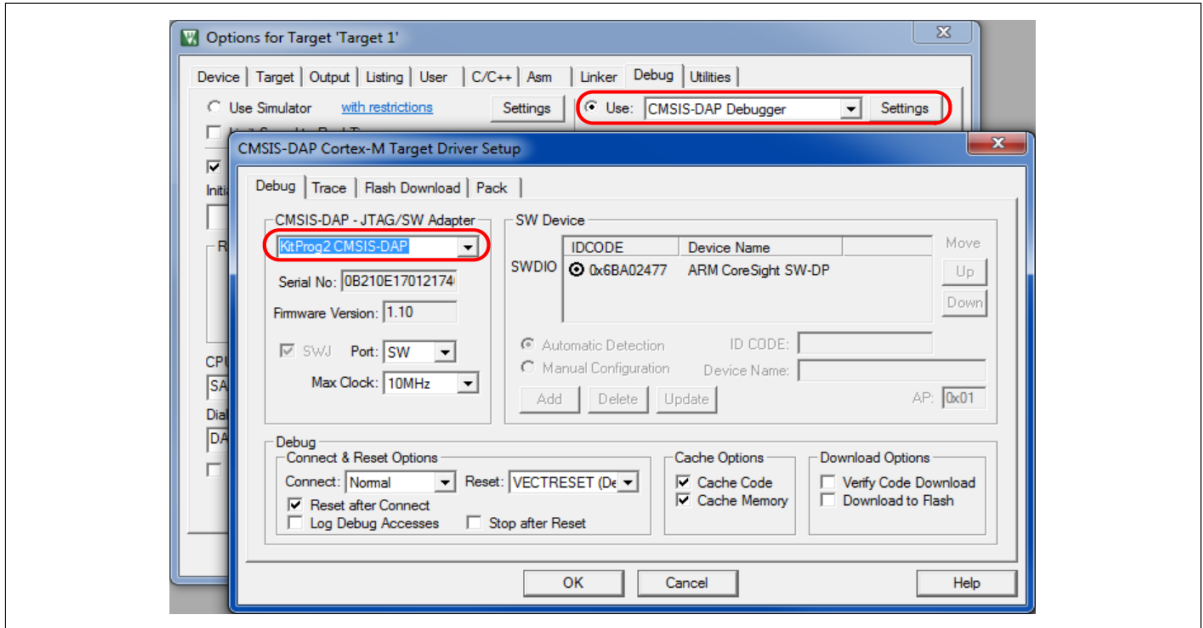

Figure 24 Project debug options
In the **Debug** tab, select **Use CMSIS-DAP Debugger**, as Figure 24 shows. Click **Settings**, select **KitProg2 CMSIS-DAP**, and confirm that all other settings are at the defaults shown. Click **OK** and go back to the Options dialog
- In the **Options** dialog, **Debug** tab, Target Driver Setup, select VECTRESET for the **Reset** option; see Figure 24.